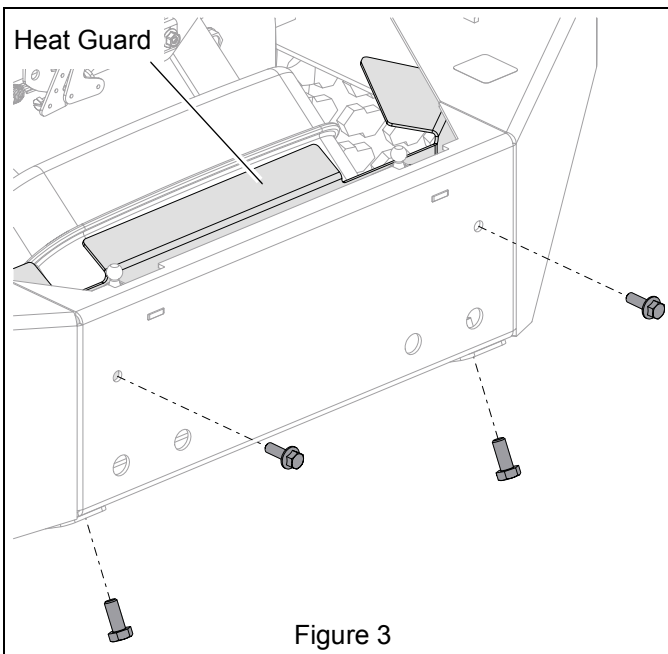

Figure 3
2. Remove hardware retaining heat guard and remove heat guard. See Figure 3.
5. Reinstall heat guard and secure with original hardware. See Figure 3.